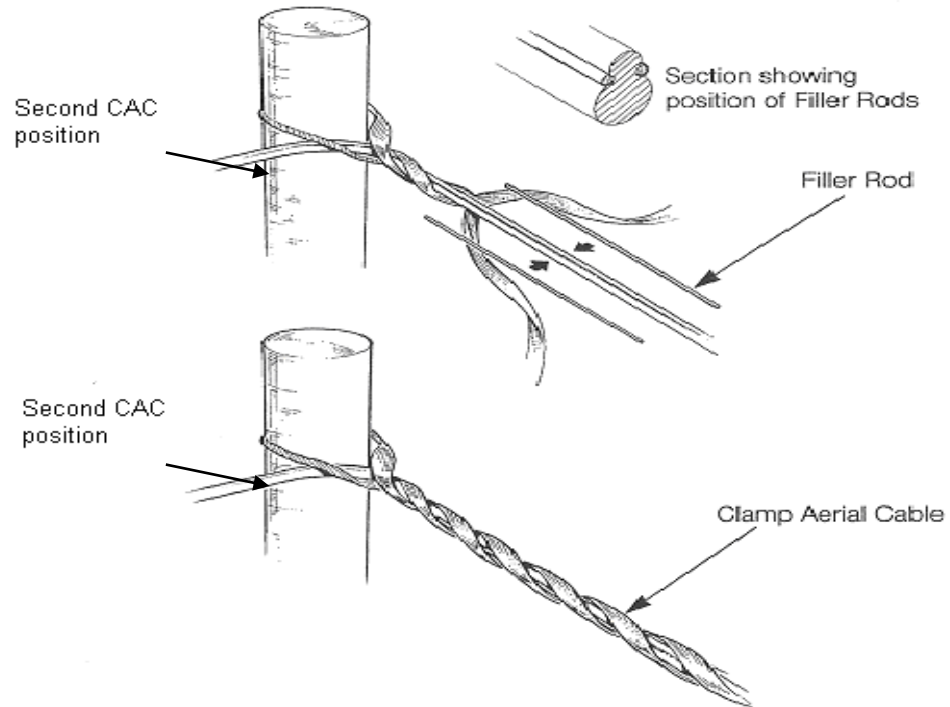

Figure 17: Installation of Clamp Aerial using Cable Filler Rod 1 for Optical Cables.
- On Fibre Cables, where pull on pole is greater than 9 metres, 2 Clamps Aerial Cable should be fitted back to back using Filler Rod 1. The method is the same as described above for cables with pull on pole between 5 and 9 metres except for the addition of Filler Rod 1 along the length of the helix in the position. (See Figure 17 below).